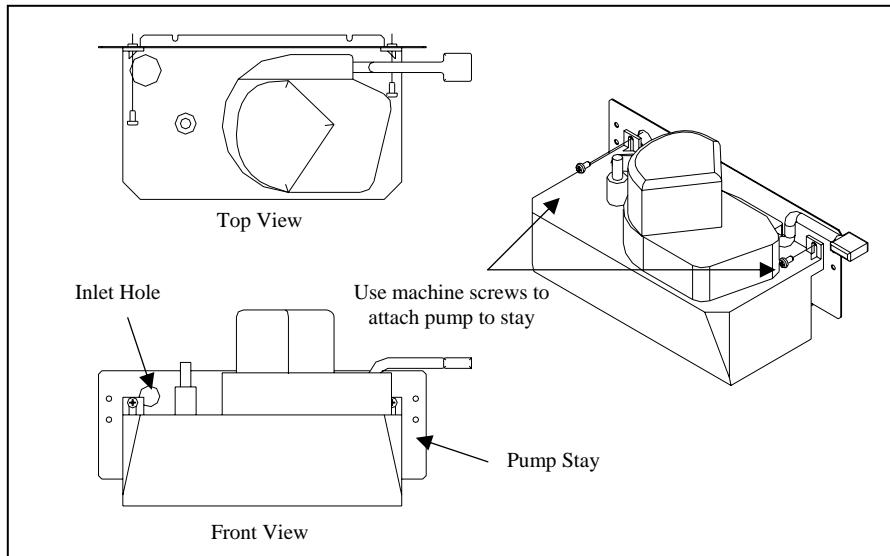
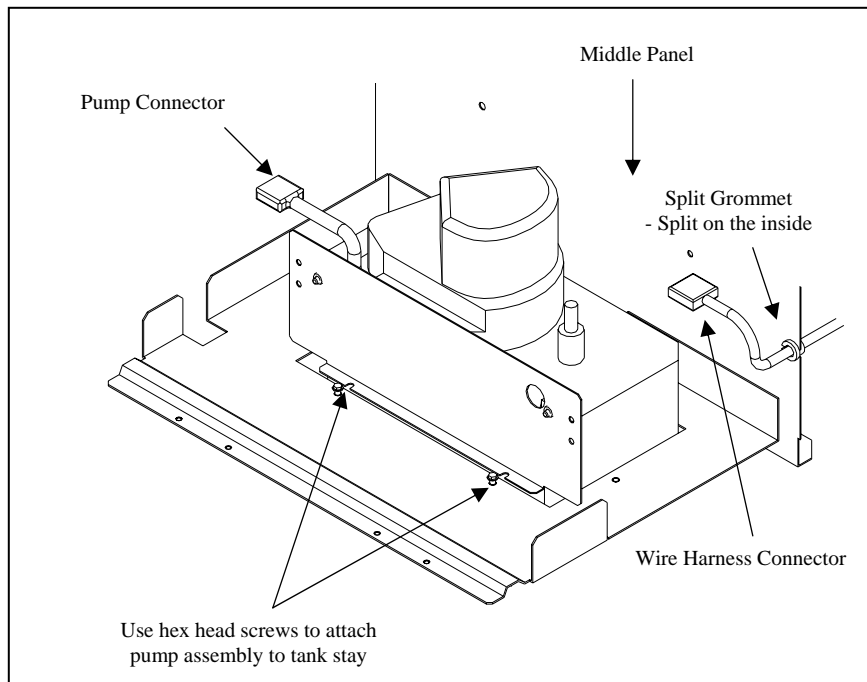

Figure 3
Figure 4
- 1) Connect the **Pump** to the **Pump Stay**. See **Figure 3**.
- Use the (2) Machine Screws
- 2) Install the **Pump Assembly** to the **Tank Stay**. See **Figure 4**.
- Tighten the (2) hex screws on the **Tank Stay**
- 3) Connect the **Pump's Connector** and **Wire Harness Connector**. See **Figure 4 & 5**.